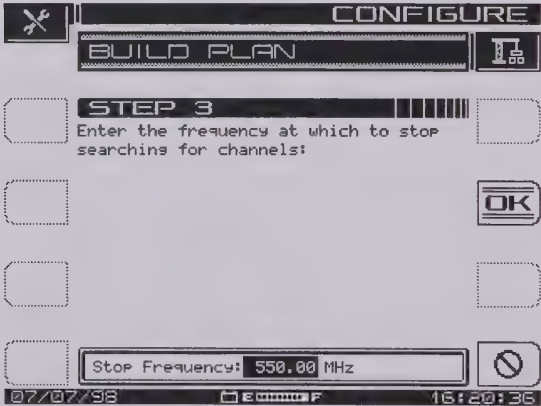

Fig. 3-7 The BUILD PLAN STEP 3 Screen
- At the STEP 2 screen, use the up and down diamond keys to select a base channel plan to use for building the new plan. Press the **OK** soft key to accept your selection. The screen shown in Fig. 3-7, BUILD PLAN STEP 3, is displayed.